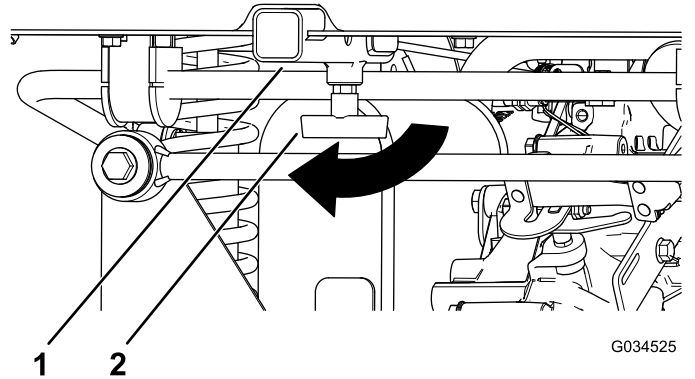

Figure 16
1. Loosen the “T” handle by rotating it clockwise (Figure 16).
2. Insert your accessory into the receiver until the holes align (Figure 16).